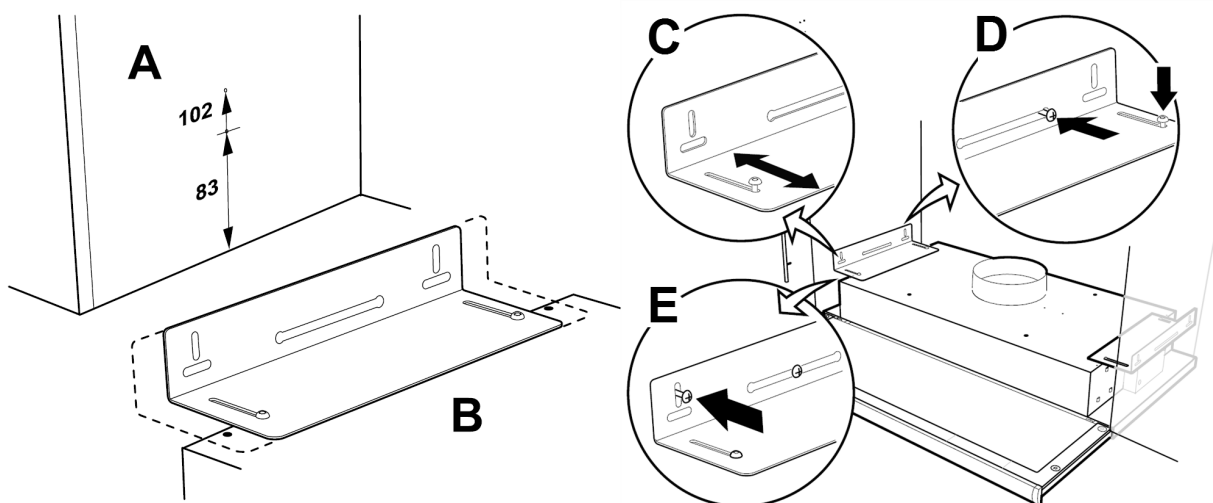

Fig. 14 Installation using brackets
Mark out and fasten screws so that they protrude a few millimetres from both cupboard sides (figure 14, pos. A). If it is intended to align the underside of the cooker hood with the underside of the row of cupboards, use the upper
measurement 102; see figure 14, pos. A. The cooker hood brackets are adjustable to fit various cupboard depths (figure 14, pos. B).
2. Move the cooker hood brackets without fully tightening the screws and adjust the brackets so that they fit the sides of the cupboards (figure 14, pos. C). Hang the cooker hood in the pre-installed screws in the side of the cupboard. Tighten the screws in the bracket and on the wall (figure 14, pos. D). Lock the brackets into position using the locking screws (figure 14, pos. E).